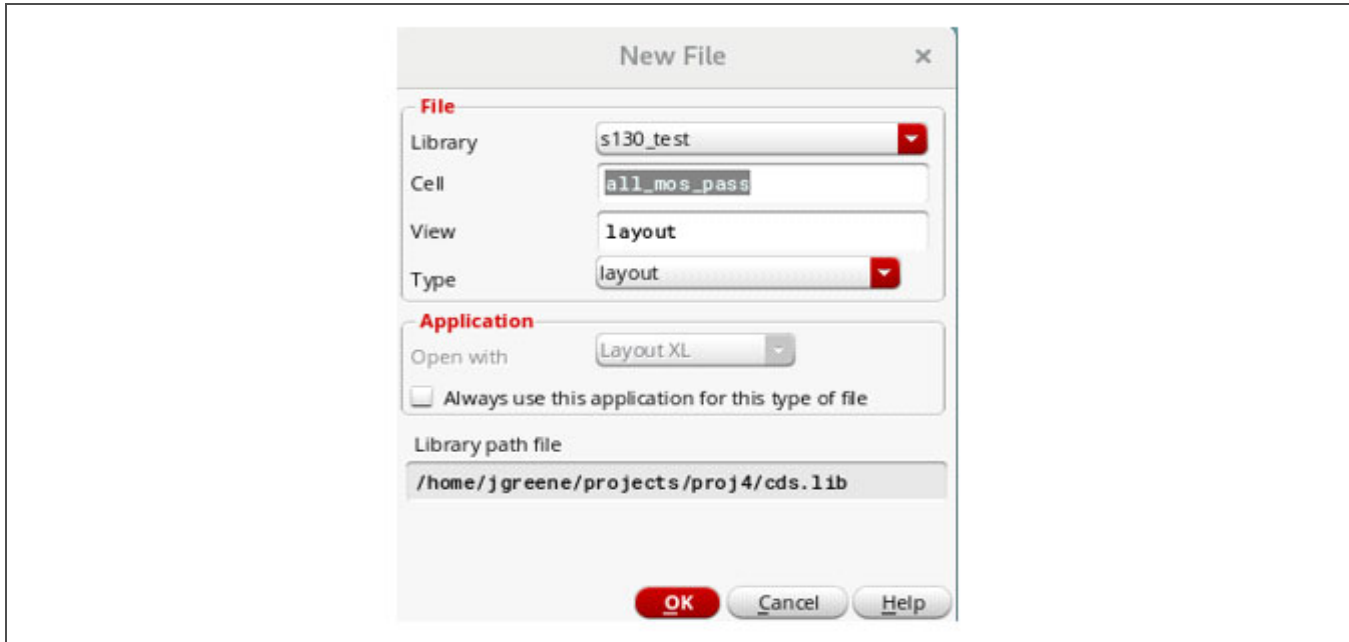

Figure 4-2. VXL New File Form
2. Fill in the form with the appropriate options. Select **Create New** to open the New File form shown in *Figure 4-2* on page 77.